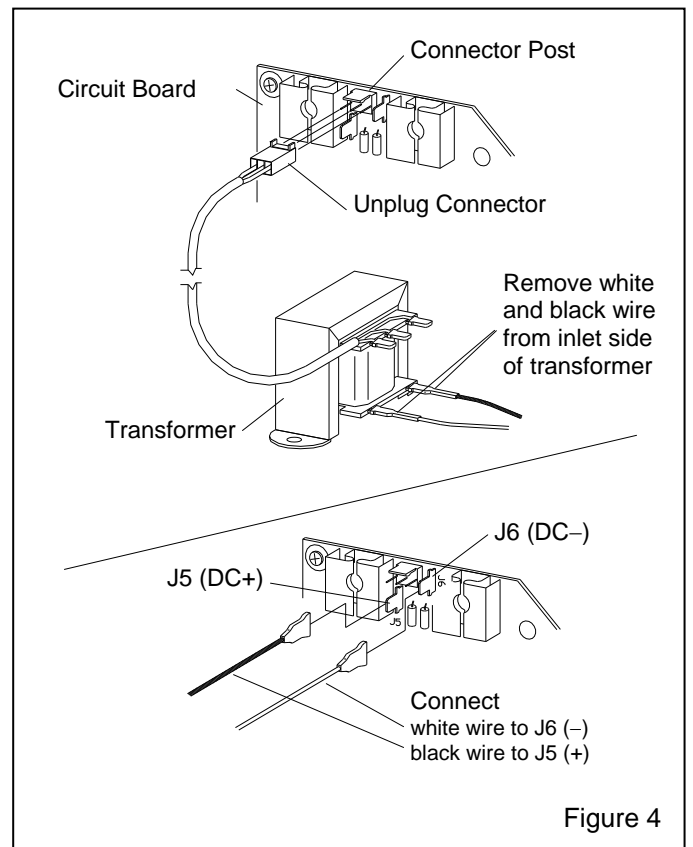

Figure 4
2.4.2 12-Volt DC: Although monitors are furnished with a 120 volt AC power cord, they are easily converted to operate on 12 volt DC. The following instructions explain the conversion. Use the supply cord provided with the monitor, or use another 2 wire cord if a longer one is required using the same process, but with 12 volt color codes, using red as positive. Refer to Figure 4.
2.4.2.4 Unplug the terminal connector from the connector post (located on the circuit board), leading from the outlet side of the transformer, as shown in Figure 4. If the monitor is to be permanently converted to 12 volts, remove the three wires from the transformer and discard the wire.
2.4.2.5 Remove the white and black wire terminal connectors from the inlet side of the transformer. Ref. Figure 4.